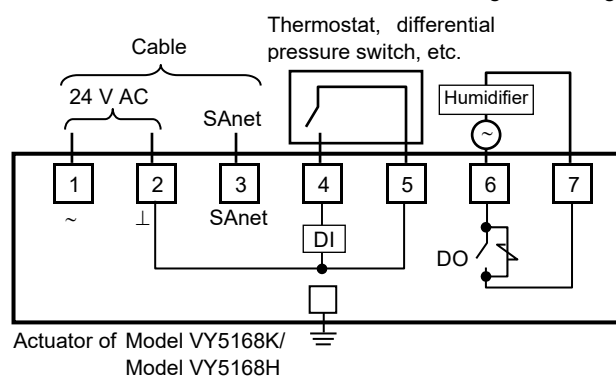

Figure 9. Basic connection example
- 3) Correctly connect the wires to the terminals with M3.5 screw terminal lugs, referring to Fig. 9.